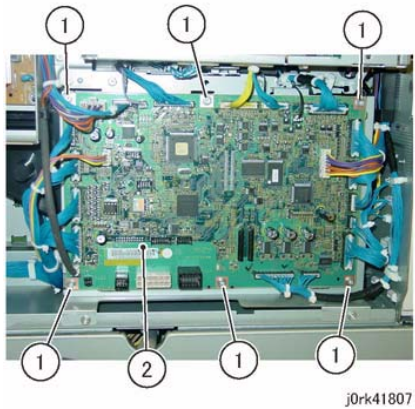

Figure 2 MCU PWB Removal
4. Remove the MCU PWB. (Figure 2)